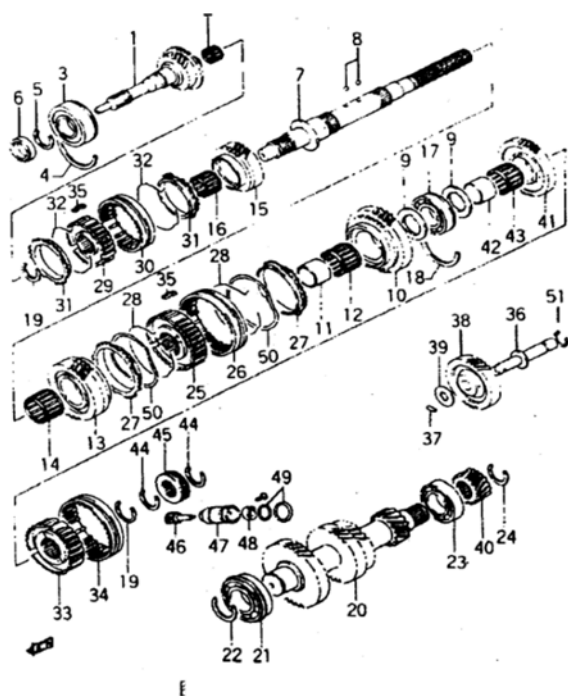
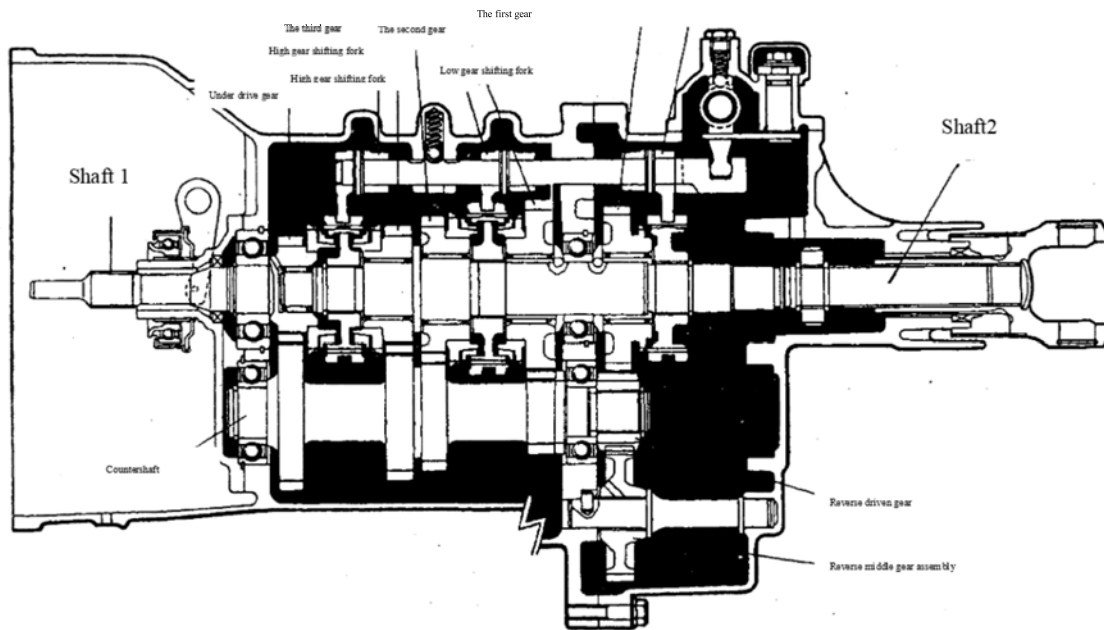

Fig.3.2-13a
Fig.3.2-13b
1. As to the introduction, please refer to Fig.3.2-13a and Fig.3.2-13b.